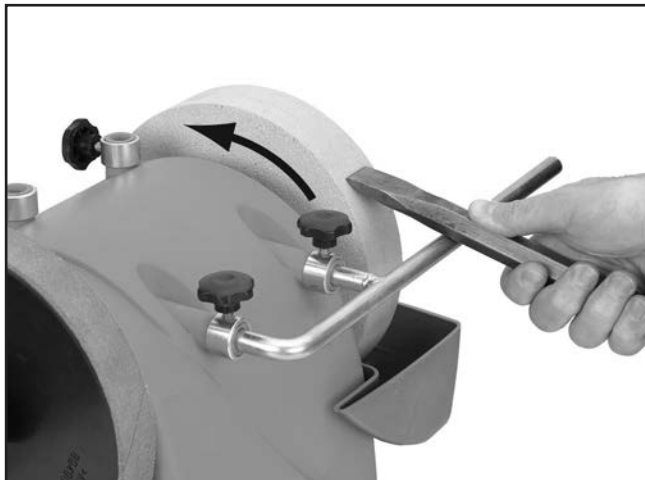

Figure 25. Example of properly grinding with wheel rotation.
5. Rest workpiece against tool rest with sharpened edge pointing away from you (see **Figure 25**).
6. Perform grinding operation on grinding area indicated in **Figure 25**.